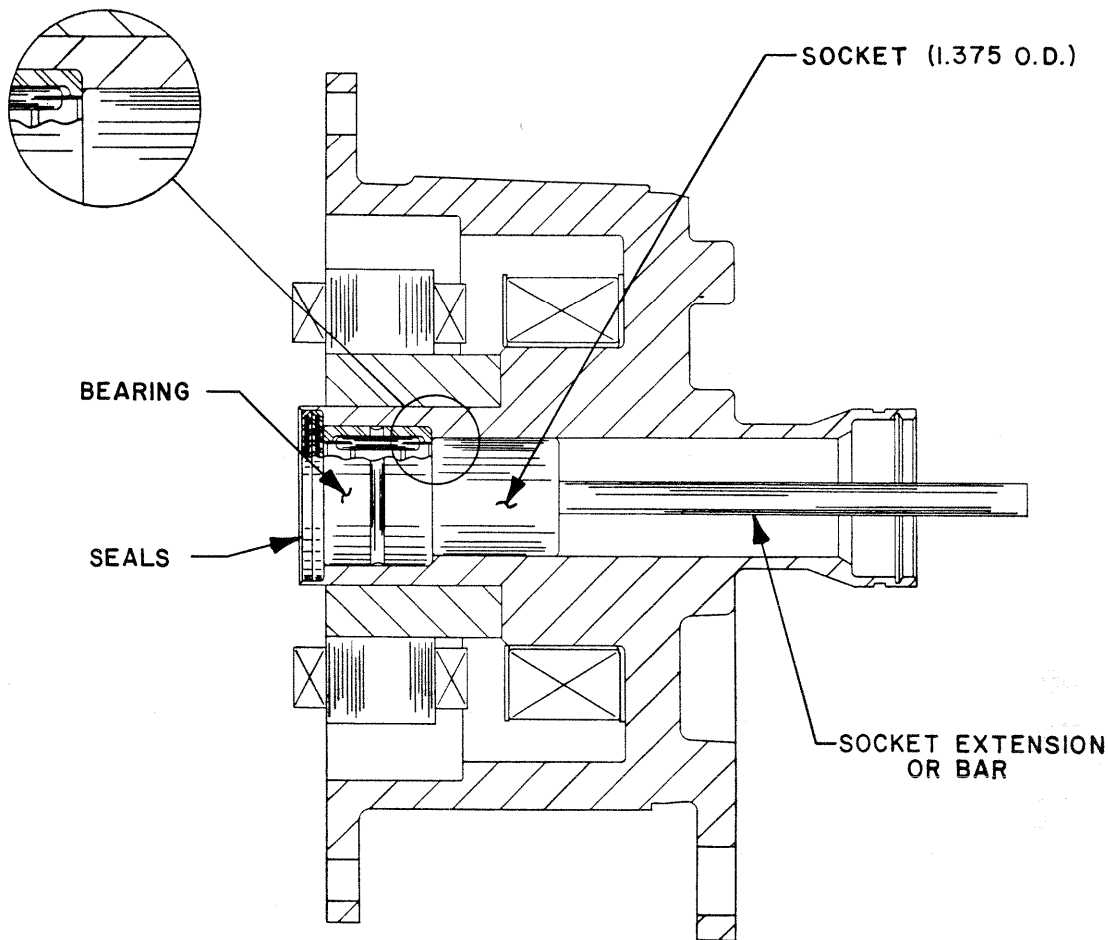

FIG. 7
- C5. Front Seals and Front Bearing Removal - Insert proper diameter (1-3/8" O.D.) socket or other appropriate tool through rear bearing bore and contact outer race of front bearing. Place socket extension or bar on socket and drive out seals and bearing. Be sure socket is sufficiently large to contact outer race. See Fig. 7.